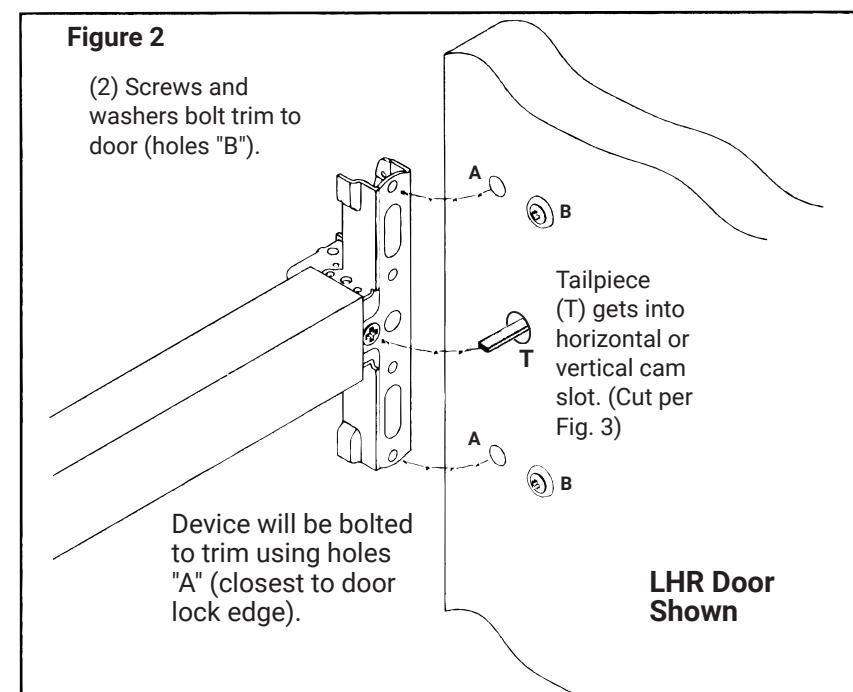

Figure 2
6. Mount trim to door thru holes "A" with (2) mounting screws as shown in Fig. 2. Use the remaining (3) oval headed screws and finish washers to secure the trim to the door surface thru location "B" as shown in Fig. 2, the third screw and washer attaches to the hole located at the bottom of the trim.
8. Seat device so that the trim tailpiece penetrates cam slot as shown in Fig. 2. Continue as shown in device instructions.